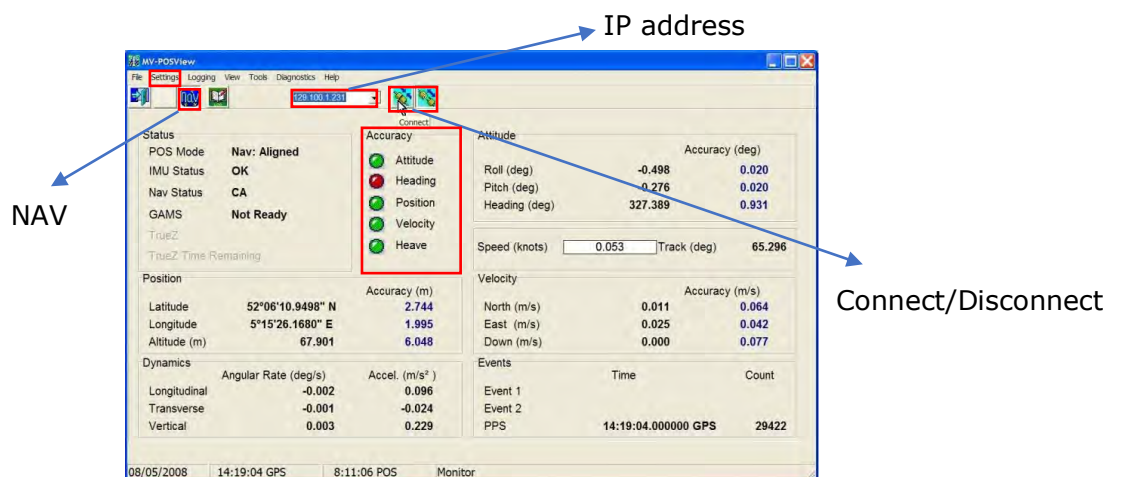

Figure 24: MV-POSView main window
- b. Open MV-POSView (Figure 24)